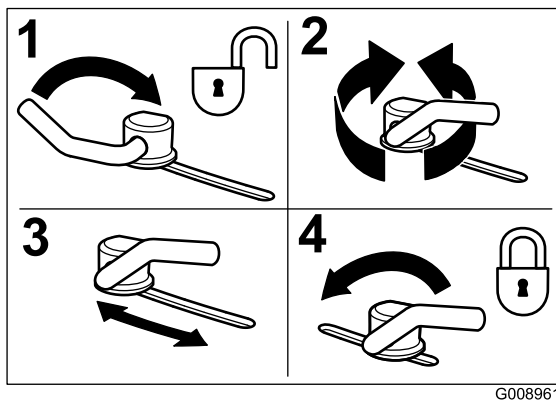

Figure 15
- To adjust the cam locks, swing the lever up to loosen the cam lock (Figure 15).
- Swing the lever back over to tighten the baffle and cam locks (Figure 15).